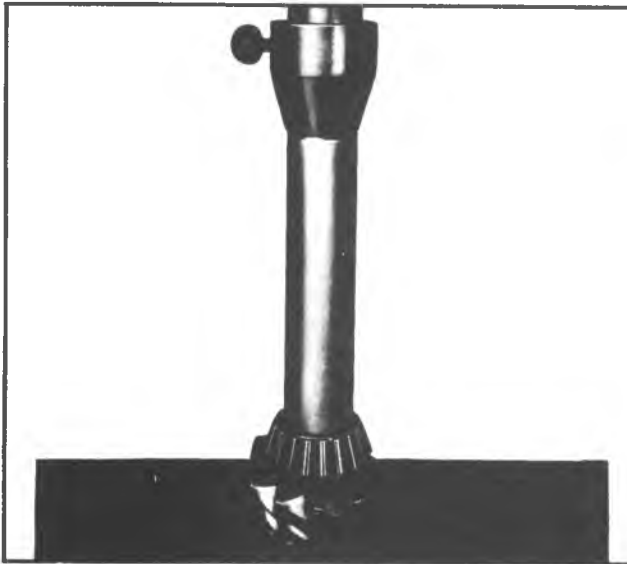

Fig. 22B--Installing Rear Bearing
17. Lubricate the rear pinion bearing with liberal amounts of hypoid lubricant and install rear bearing. Use J-8609-01 for the 8-1/2" ring gear or J-5590 for the 8-7/8" ring gear, as shown in figure 22B.